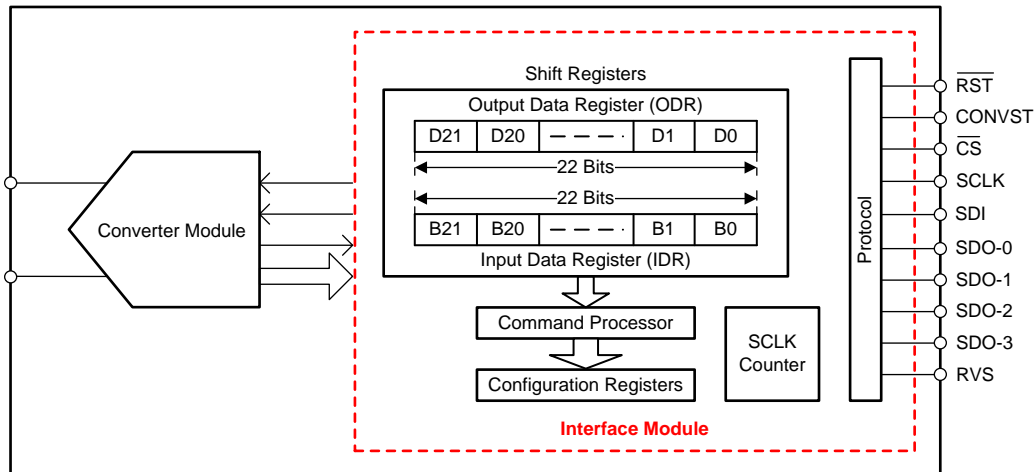
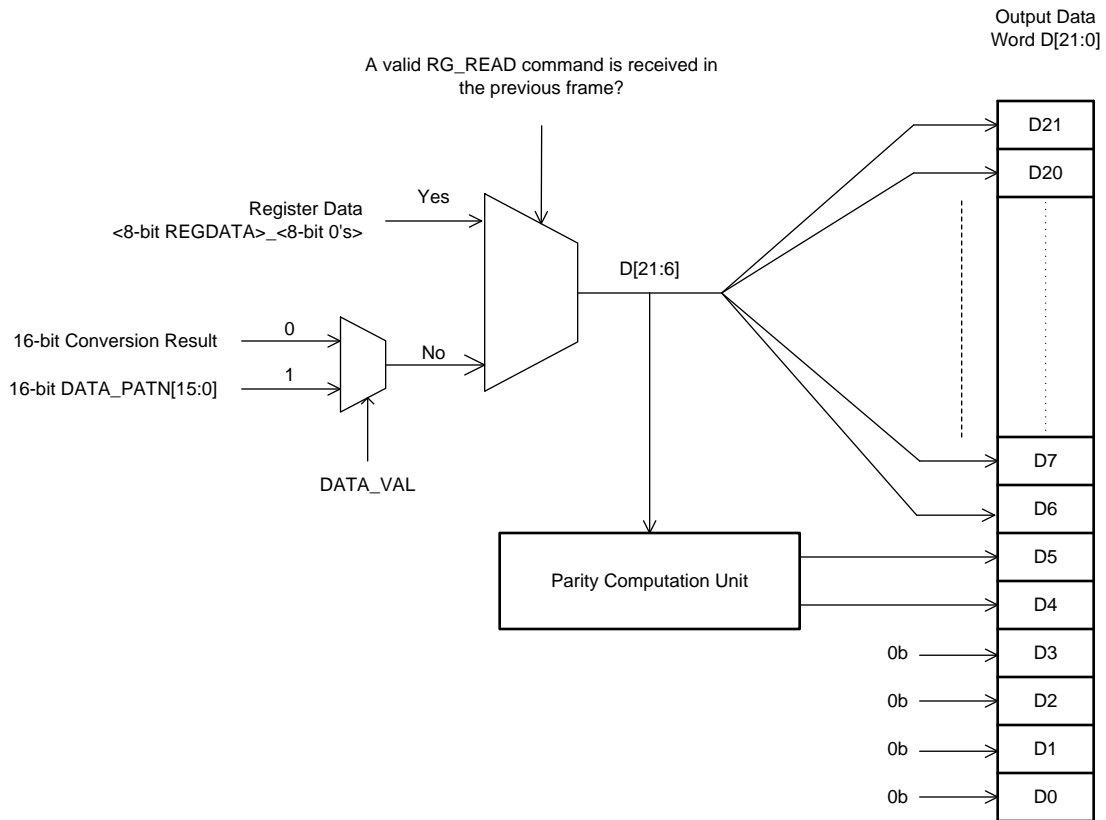
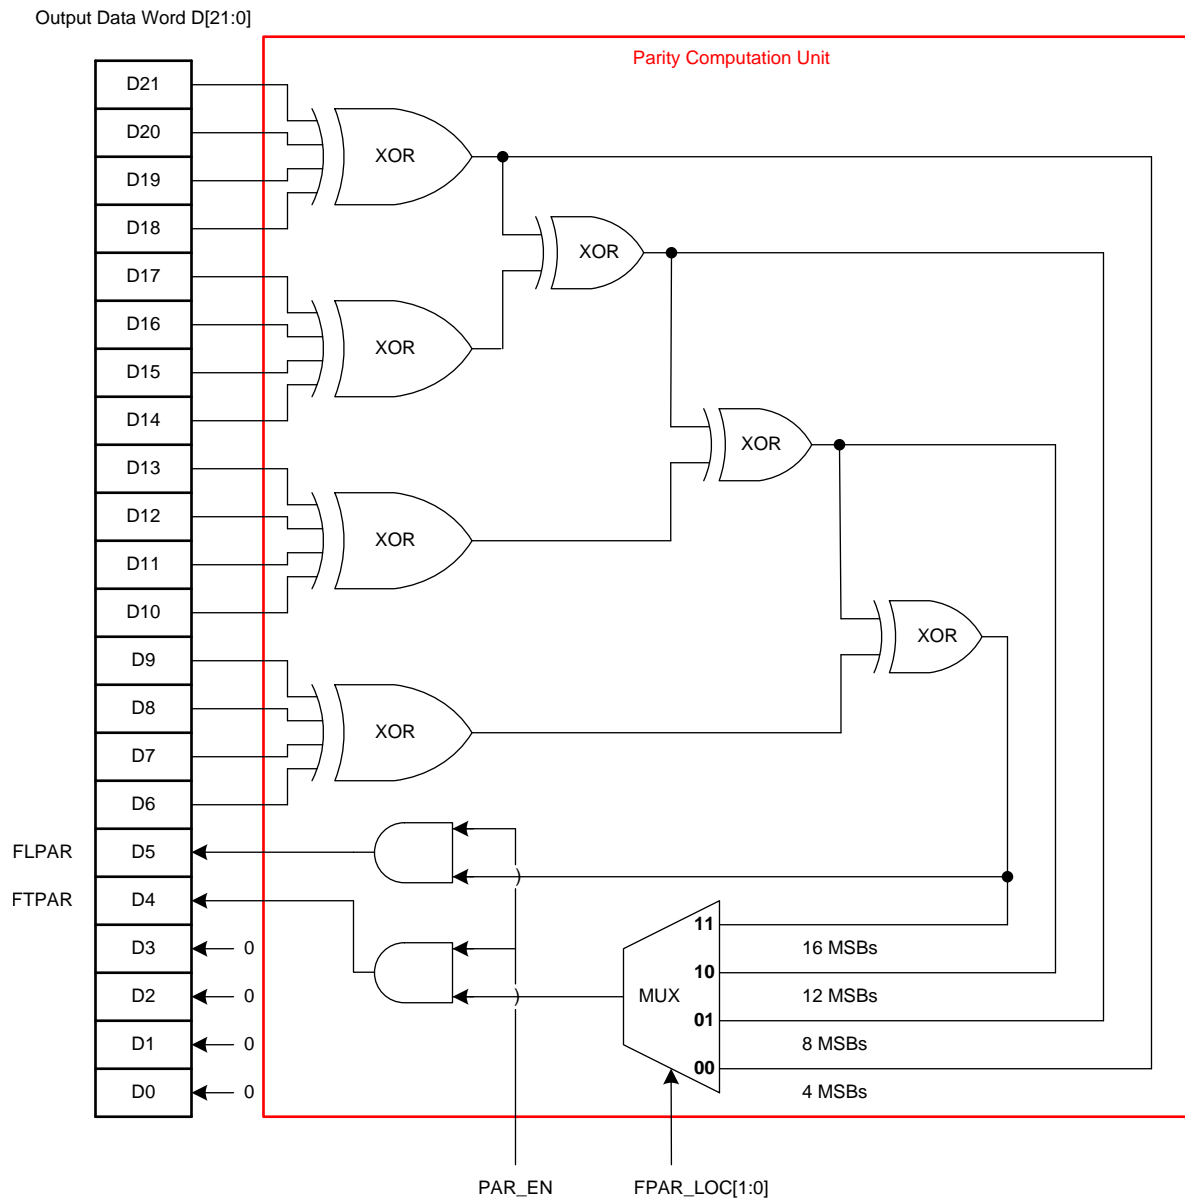
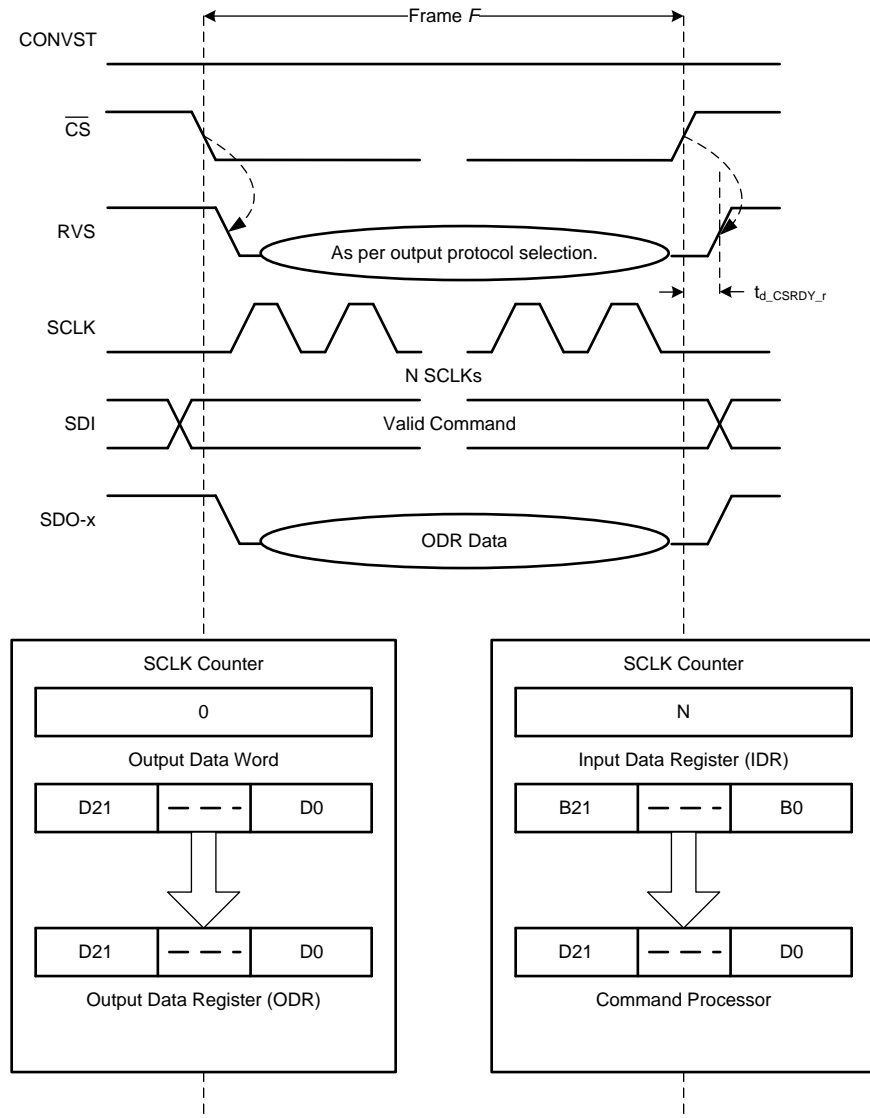

Figure 39. Interface Module
Figure 43. Output Data Word (D[21:0])
Figure 44. Parity Bits Computation
Figure 45. Data Transfer Frame
The interface module facilitates the communication and data transfer between the device and the host controller. As shown in Figure 39, the module consists of shift registers (both input and output), configuration registers, and a protocol unit.
Figure 43 shows the output data word. Figure 44 shows further details of the parity computation unit illustrated in Figure 43.
A data transfer frame between the device and the host controller is bounded between a $\overline{\text{CS}}$ falling edge and the subsequent $\overline{\text{CS}}$ rising edge. The host controller can initiate a data transfer frame (as shown in Figure 45) at any time irrespective of the status of the CONVST signal; however, the data read during such a data transfer frame is a function of relative timing between the CONVST and $\overline{\text{CS}}$ signals.
- The device takes control of the data bus. As shown in Figure 45, the 22-bit contents of the output data word (see Figure 43) are loaded in to the 22-bit output data register (ODR; see Figure 39).
- The 22-bit input data register (IDR; see Figure 39) is reset to 000000h, corresponding to a NOP command.
- As illustrated in Figure 45, the 22-bit contents of the IDR are transferred to the command processor (see Figure 39) for decoding and further action.
In a short command frame, the write operation to the device is invalidated; however, the output data bits transferred during the short command frame are still valid output data. Therefore, the host controller can use such shorter data transfer frames to read only the required number of MSB bits from the 22-bit output data word. As shown in Figure 43, an *optimal read frame* for the ADS892xB devices must read only the 16 MSB bits of the output data word. The length of an optimal read frame depends on the output protocol selection; see the Protocols for Reading From the Device section for more details.